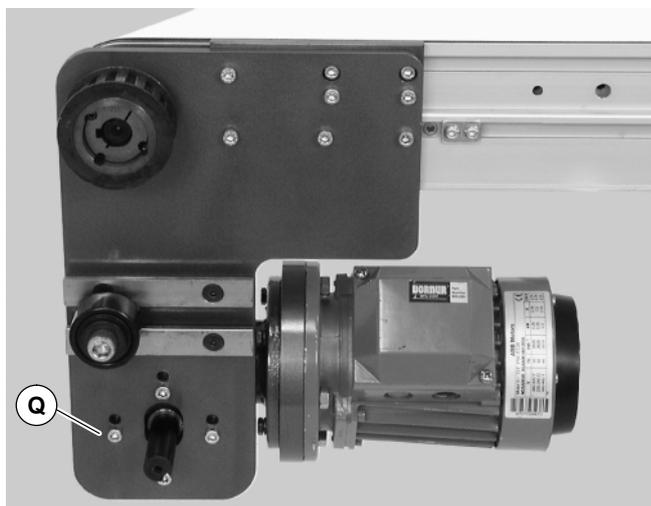

Figure 15
4. Remove four (4) gear reducer mounting screws (Q of Figure 15). Remove gearmotor.
11. Install gearmotor to mounting bracket and tighten screws (Q of Figure 15) to 12 Nm.